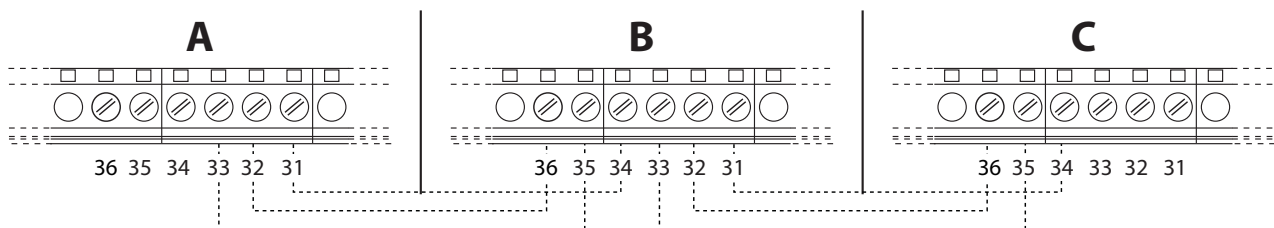

fig. 56- Cascade connection
1. Connect the modules as shown in fig. 56 (**example with 3 modules**)
If this does not occur, disconnect the power and check the wiring in fig. 56. .